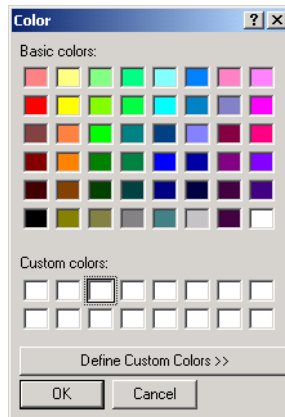

Figure 5-24. ViewDraw for Actel's Color Dialog Box
4. Double-click the color in the color box or click the *Edit* button to access the Color dialog box, as shown in Figure 5-24.